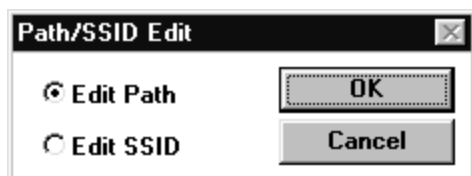
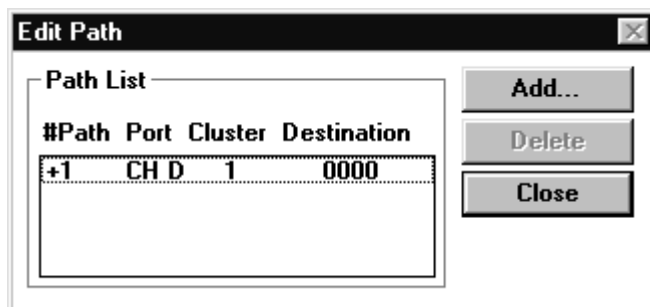
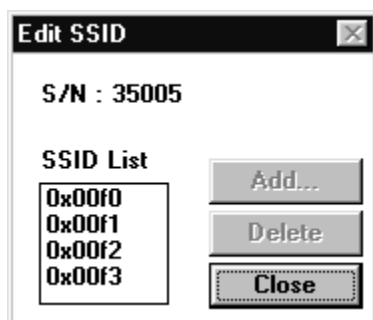
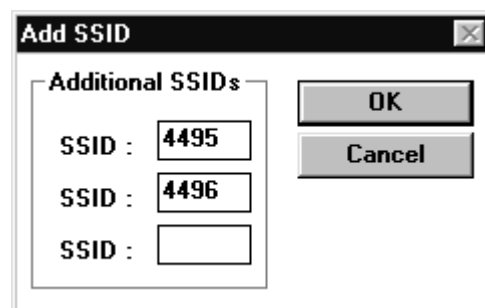

Figure 4.15 Path/SSID Edit Panel
Figure 4.16 Edit Path Panel
Figure 4.17 Edit SSID Panel
Figure 4.18 Add SSID Panel
The Path/SSID Edit panel (see Figure 4.15) provides access to the Edit Path panel and Edit SSID panel. The Edit Path panel (see Figure 4.16 and section 4.3.4) allows you to add and delete logical paths from the MCU to an existing RCU. The Path/SSID Edit panel is accessed from the HORC Main Control panel.
1. On the HORC Main Control panel, select the appropriate CU image, select the desired RCU in the **RCU List** box, and then select **Edit Path/SSID...** to open the Path/SSID Edit panel (refer to Figure 4.15).
2. On the Path/SSID Edit panel, select **Edit Path** and click **OK** to open the Edit Path panel (refer to Figure 4.16).
The Edit SSID panel (see Figure 4.17) allows you to add and delete SSIDs for an existing RCU and provides access to the Add SSID panel (see Figure 4.18). The Edit SSID panel is accessed from the Path/SSID Edit panel (refer to Figure 4.15).
1. On the HORC Main Control panel, select the appropriate CU image, select the RCU whose SSIDs you want to change, and then select the **Edit Path/SSID...** button to open the Path/SSID Edit panel (refer to Figure 4.15).
2. On the Path/SSID Edit panel, select **Edit SSID**, and then select **OK** to open the Edit SSID panel (refer to Figure 4.17).
- a) On the Edit SSID panel, select the **Add...** button to open the Add SSID panel (refer to Figure 4.18).